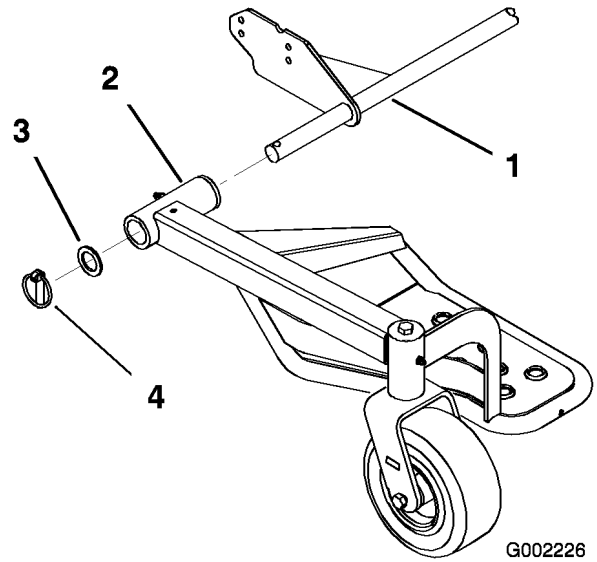

Figure 7
- Slide the mounting tube on each sulky assembly over the ends of the axle with the foot rests towards the inside (Figure 7).
- Secure the sulky assemblies using a washer (1-3/4 inch) and lynch pin on each side (Figure 7).